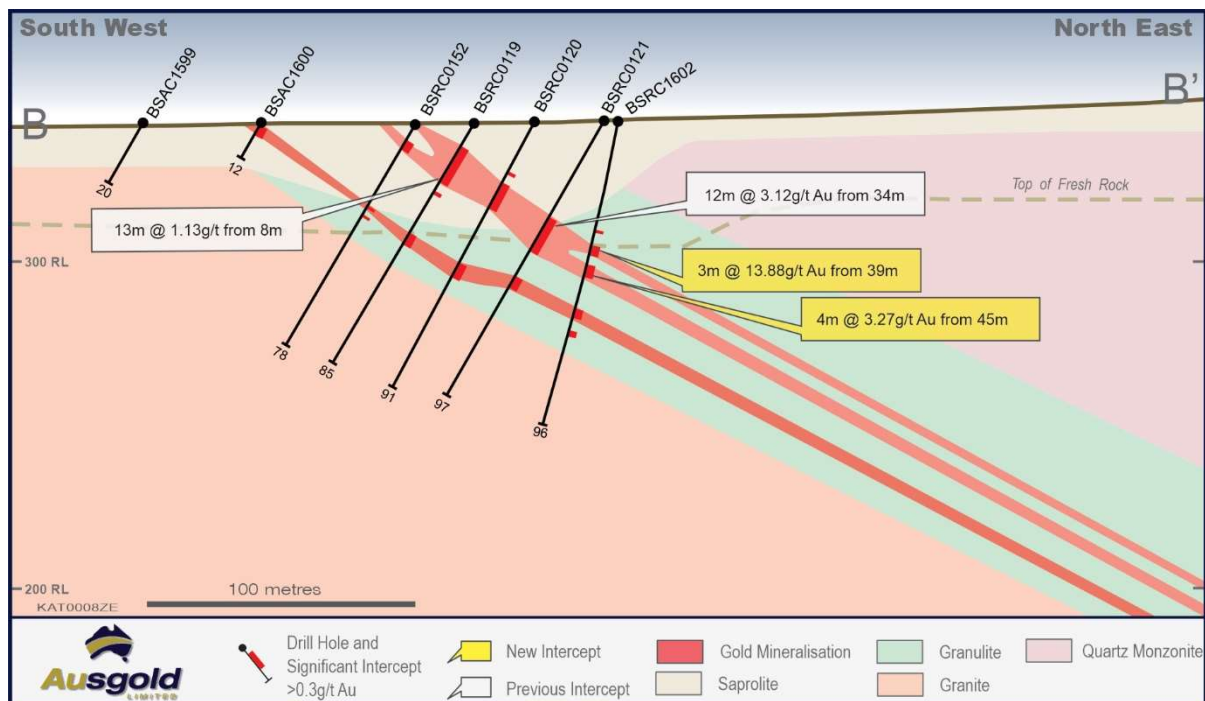

Figure 3 – Cross-section B-B' at Jackson
- 3m @ 13.88g/t Au including 1m @ 40.28g/t Au from 39m BSRC1602 (Jackson), (Figure 3)